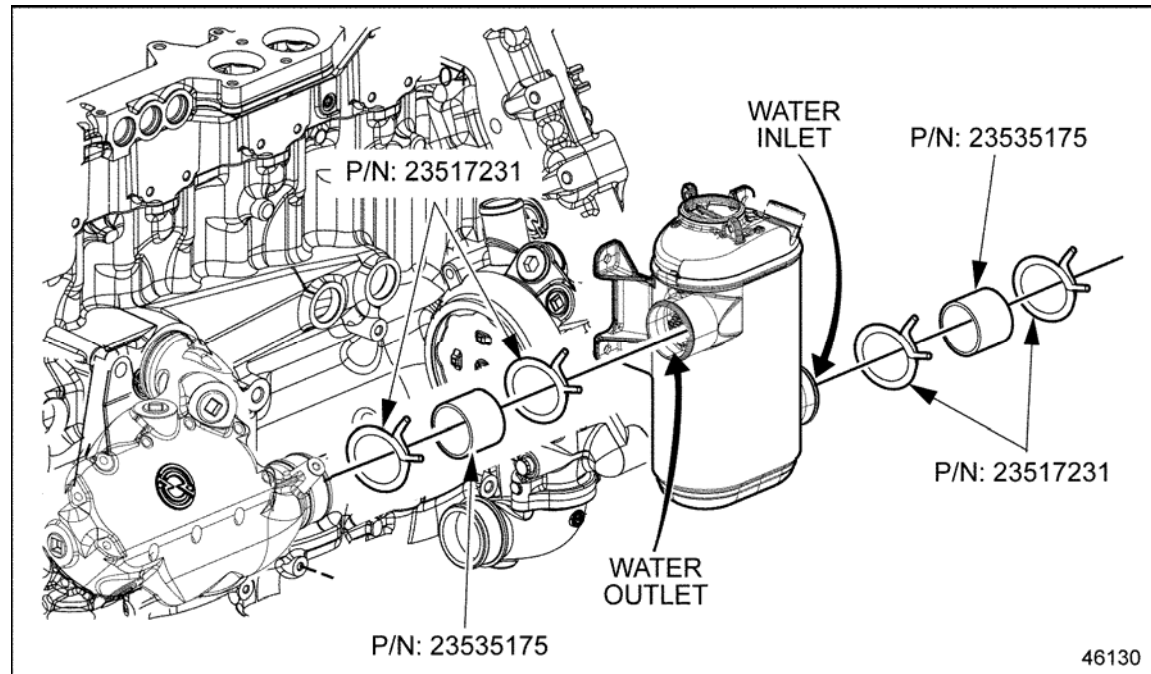

Figure 2 Hose and Spring Clamp Kit for EGR Cooler
1. If the engine you are servicing has spring wire clamps (See Figure 2), remove the clamps using the slip-joint pliers tool (J-41454).